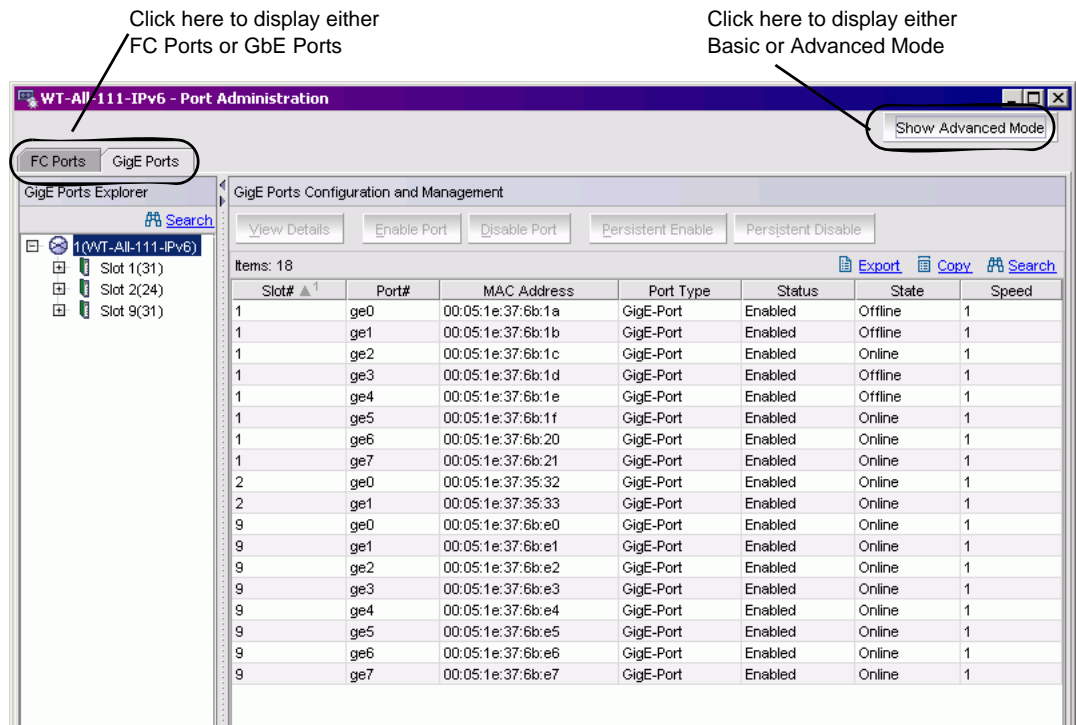

FIGURE 33 Port Administration window, GigE Ports, Basic mode
You can view and manage ports through the Port Administration window, shown in Figure 33 on page 64. You access the Port Administration window through the Switch View, by clicking an accessible port. See “Switch View” on page 21 for information about accessible ports.
The window opens in basic mode (see Figure 33).
The Port Administration window displays information about the ports on the switch. Click the **Show Advanced Mode** button in the upper-right corner of the window to see more port management options (see Figure 33).
The Port Administration window (shown in Figure 33) has the following components:
1. Click a port in the Switch View to open the Port Administration window (see Figure 33 on page 64).